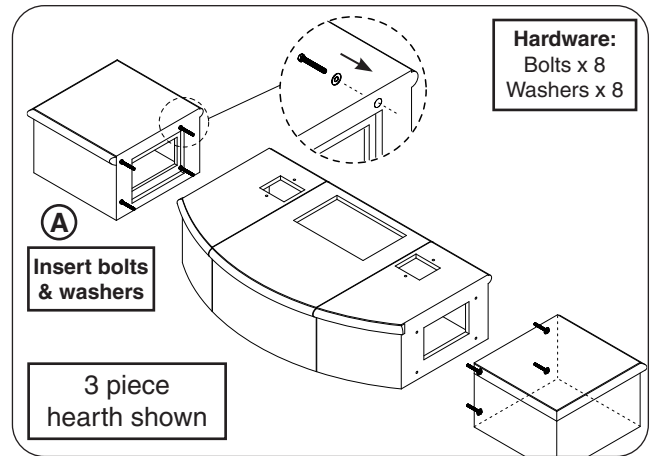

Fig. 22-1 Assemble hearth - arrange (if required)
2. Arrange the hearth pieces in their proper position. Then insert the bolts and washers into the outer pieces of the hearth as shown in Fig. 22-1.